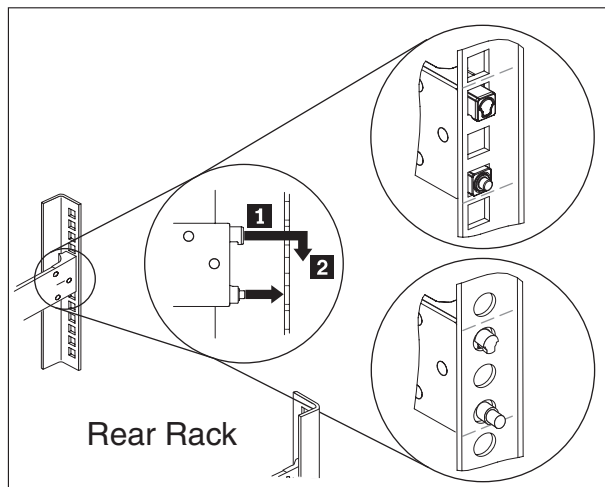

Figure 10. Install the rear end of the slide rails
2. Install the rear end of the slide rails, as shown in Figure 10: